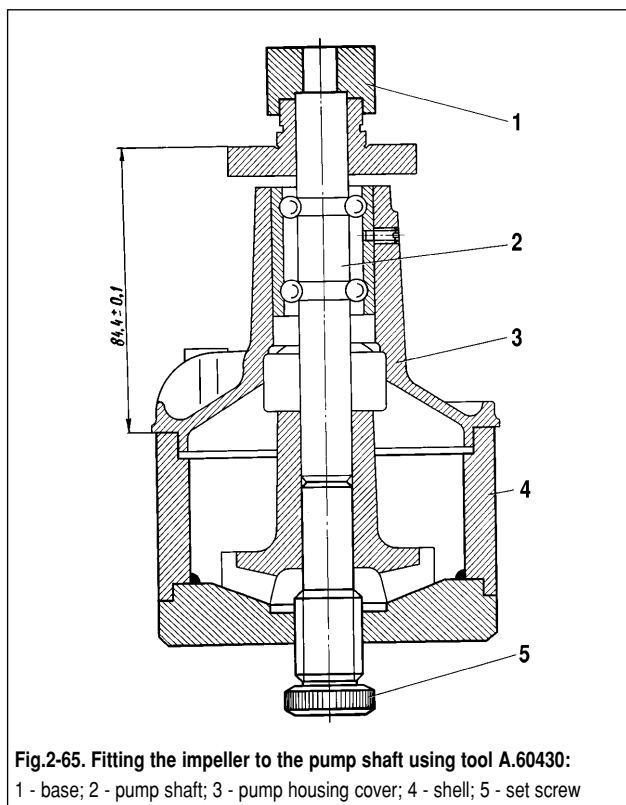

Fig.2-65. Fitting the impeller to the pump shaft using tool A.60430:
- using tool A.60430 (Fig.2-65) press the pulley hub onto the shaft, maintaining a size of (84.4 ± 0.3) mm. When the hub is of sintered quality, press in the new hub only.